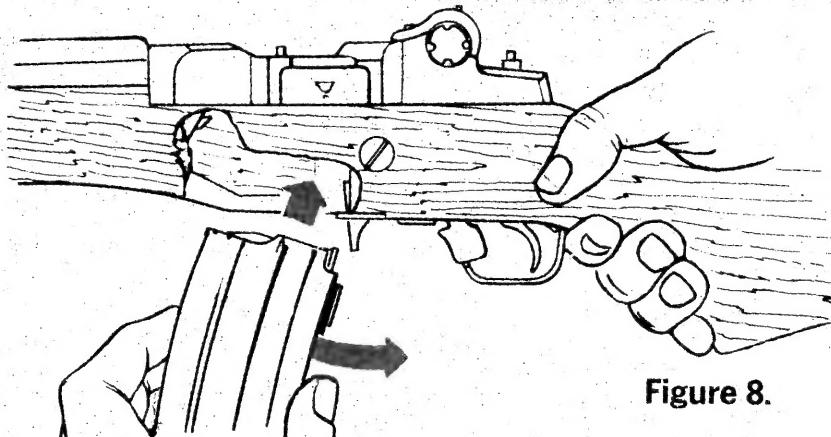

Figure 8.
e. INSERTING THE MAGAZINE — See Figure 8. The magazine may be inserted with the bolt in either the closed or open position.